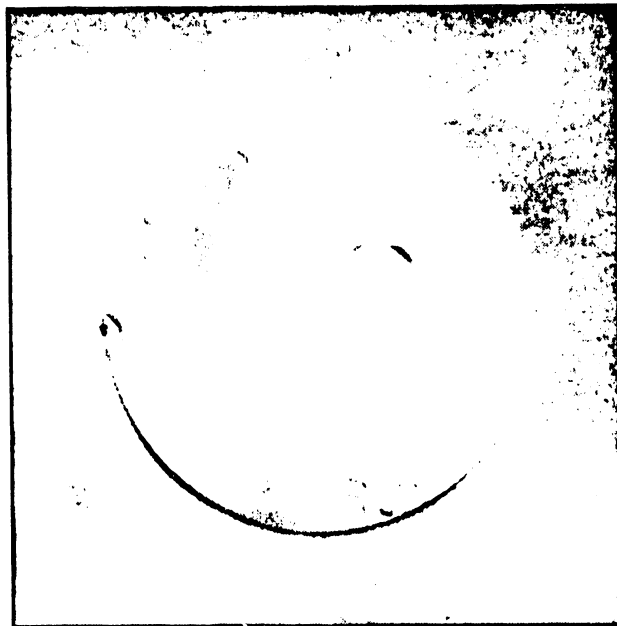

Figure 5-28. Quantum Drive Actuator Lock
4. Unlock the actuator (see figure 5-28) by rotating the actuator lock counterclockwise as far as it will go (approximately 1/2 turn). The embossed arrow will now point to RUN.